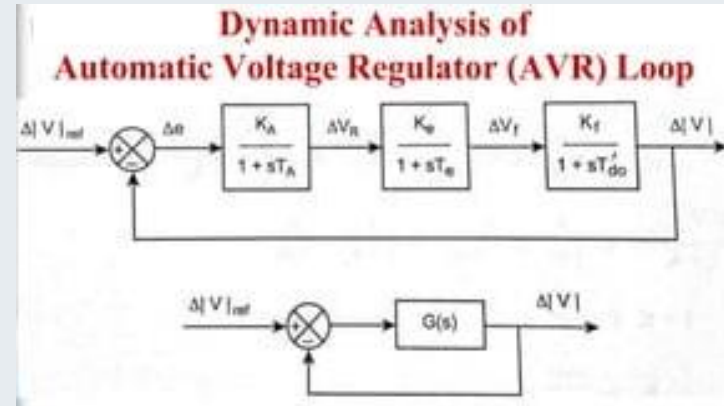

Figure 9. AVR Control Transfer function loop.
- The equivalent transfer function blocks of the AVR loop can be grouped into a single block and presented in Fig.9.